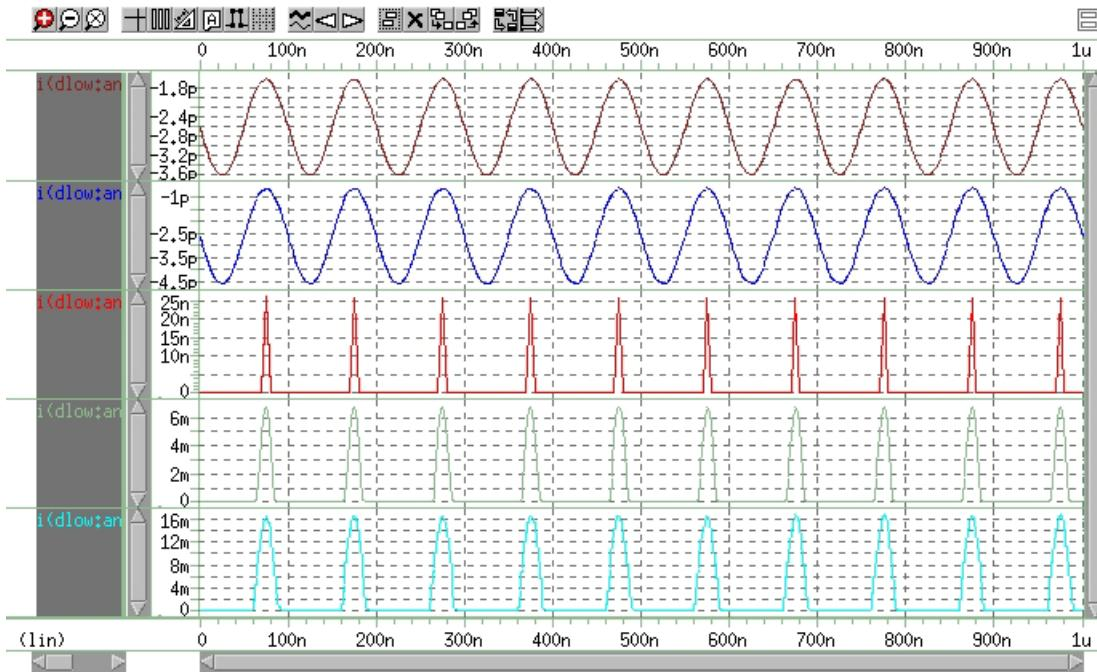

Figure 203 Plot of Current through Diode dlow vs. Time
12. Click the ungroup panels icon ()on the WaveView panel tool bar to display a plot similar to the one shown in Figure 203 on page 1022.